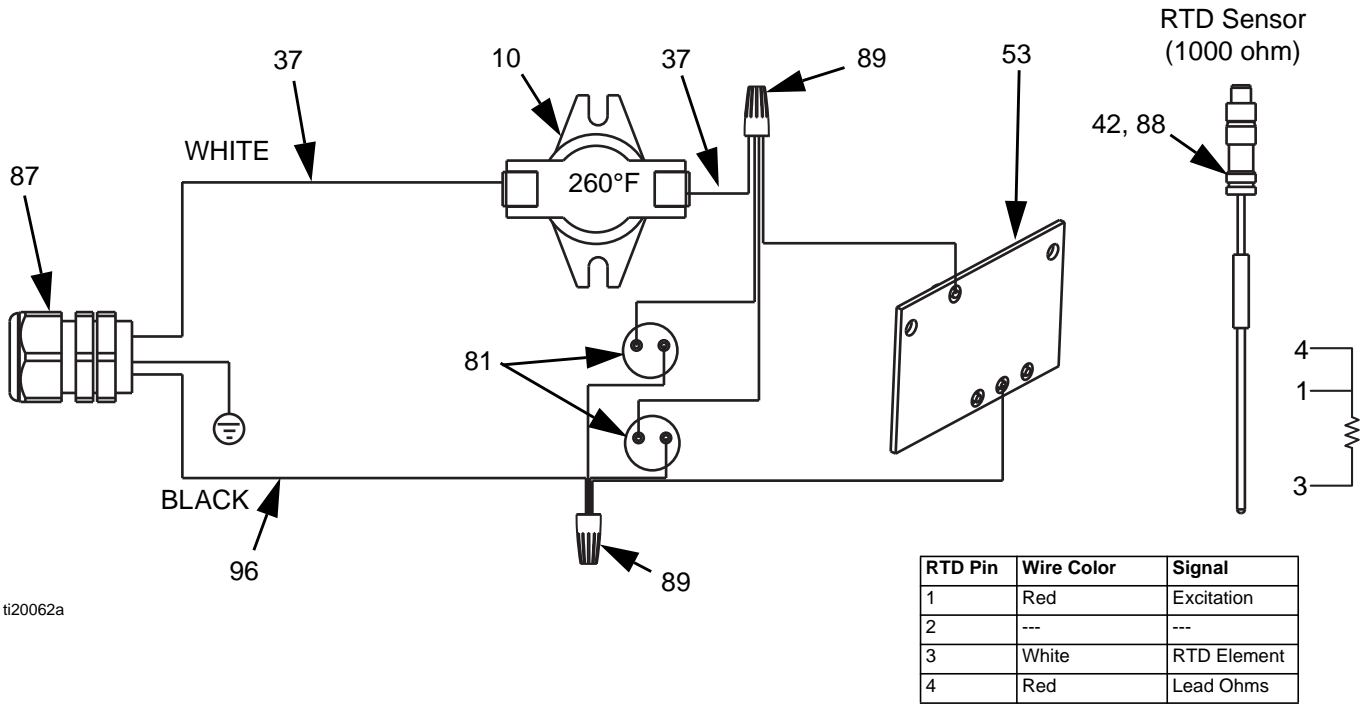
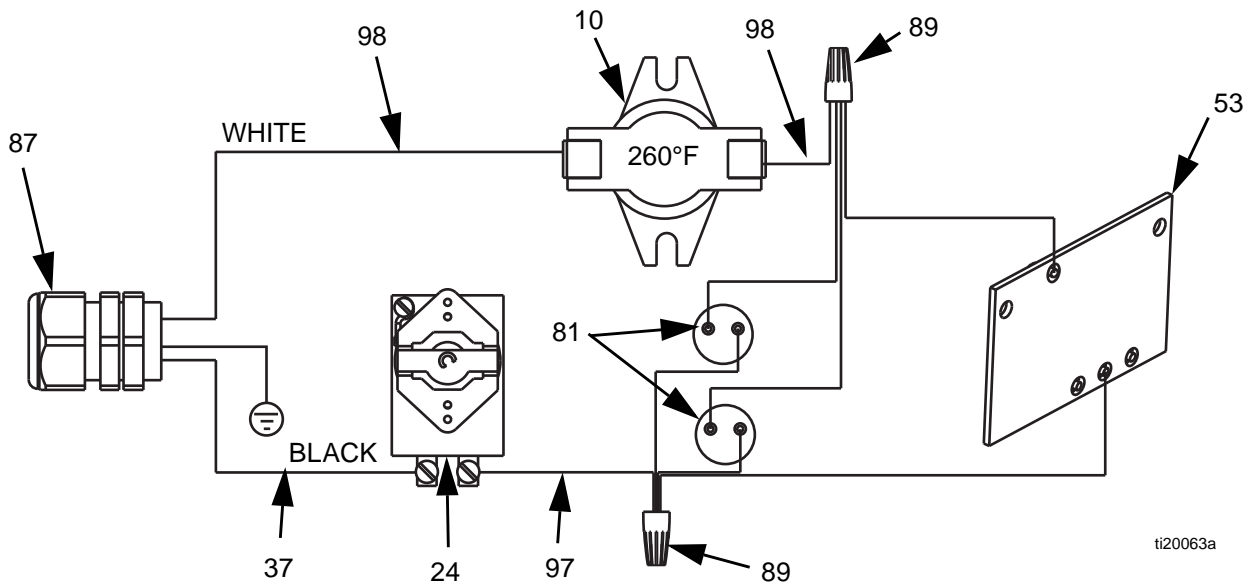

FIG. 8: Electrical Schematic - 262853, 24W612 Heater with RTD
FIG. 9: Electrical Schematic - 24P016, 24W248 Heater with Thermostat
- Refer to FIG. 9 or FIG. 8 for wiring connections.
- Make sure gasket (47) is installed and aligned with electrical housing screw holes.
- Secure cover (18) with screws (52). Torque screws to 89 in-lb (10 N•m).